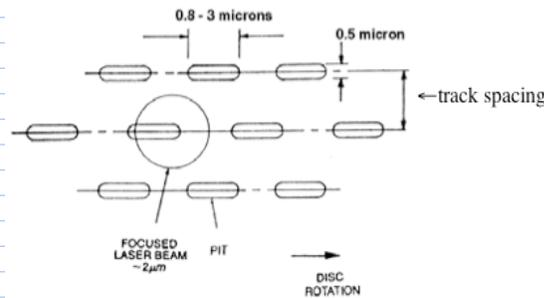

Figure 4
- c. The length and separation of the pits encodes the digital information (whether audio information or just data, as on a CD-ROM) on the disc. Thus these quantities (pit length and pit separation) are irregular. However, the separation between adjacent "tracks" is very regular, and this is what you will measure. See figure 4 below: